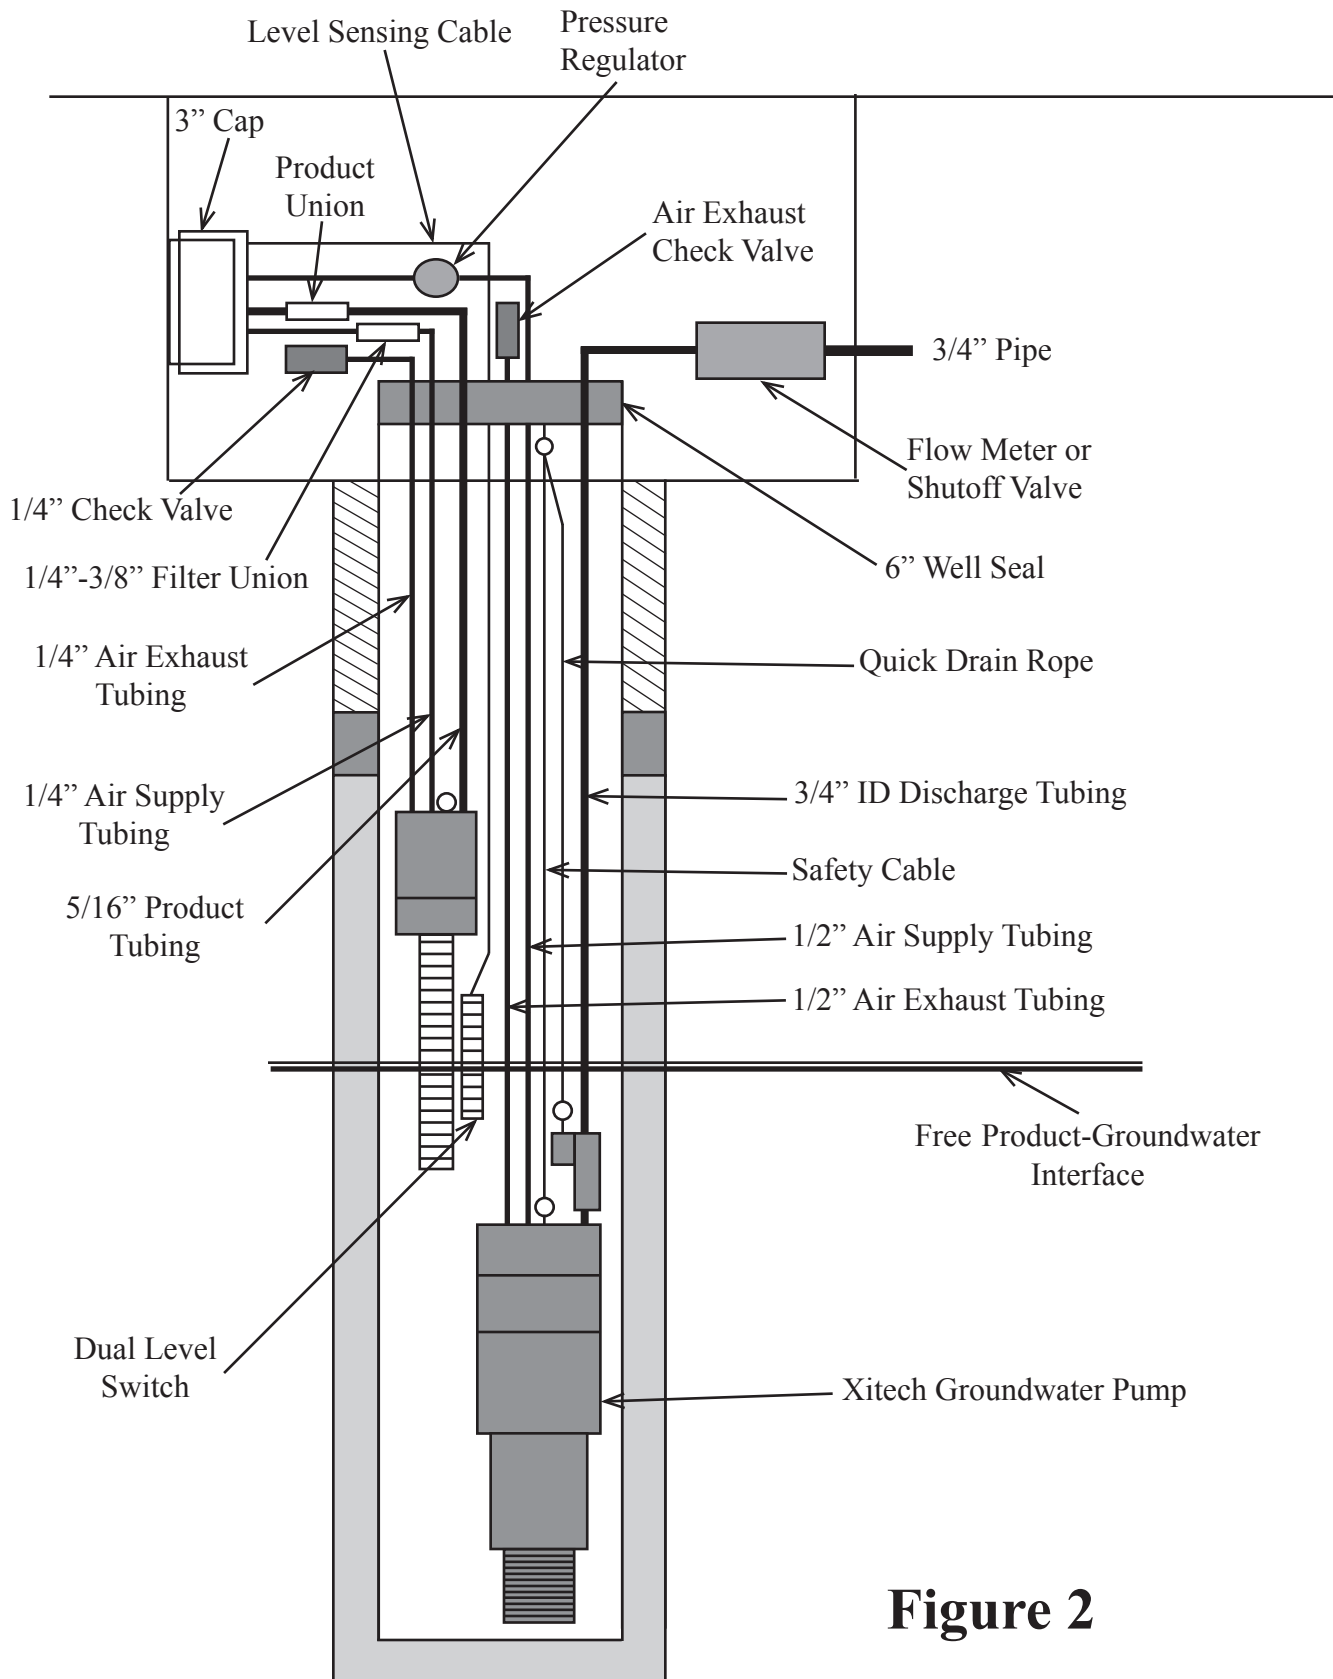

Figure 2
STEP 22. Attach the water level switch assembly (Figures 2 and 3) to the center of the skimmer’s slotted well screen using tie wraps. Slide the level switch cable through the bottom side of the 6” Insert Well Seal fitting labeled “L” (Figure 8) until 5 feet of the level switch cable is sticking out of the top side of the well seal. Slide the end of the level switch cable coming out of the top of the well seal through the 3” conduit cap fitting labeled “L” until 1 foot of the cable is sticking through the 3” conduit cap. Attach the wires from the level switch cable to the 4-conductor switching cable in the horizontal 3” conduit.